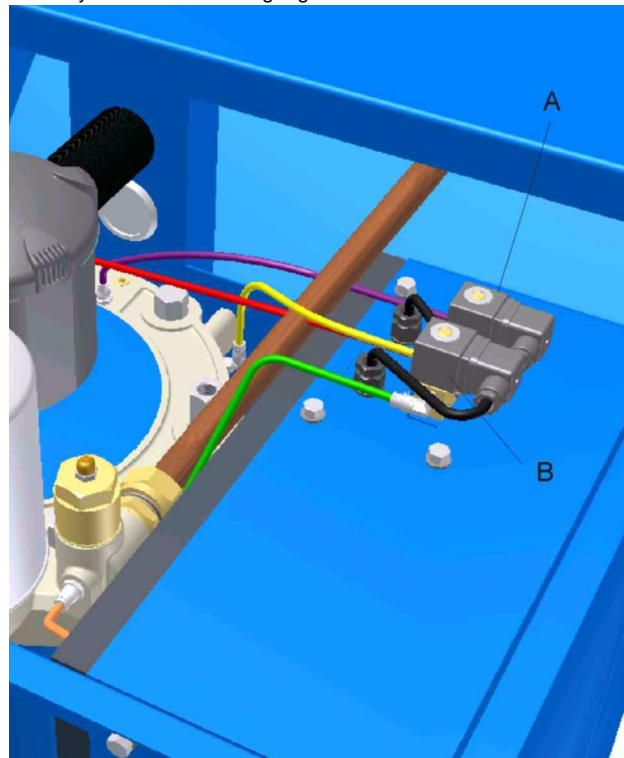

Fig. 8.1 - Solenoid Locations
8.1 Compressor Control (Fig. 8.1)